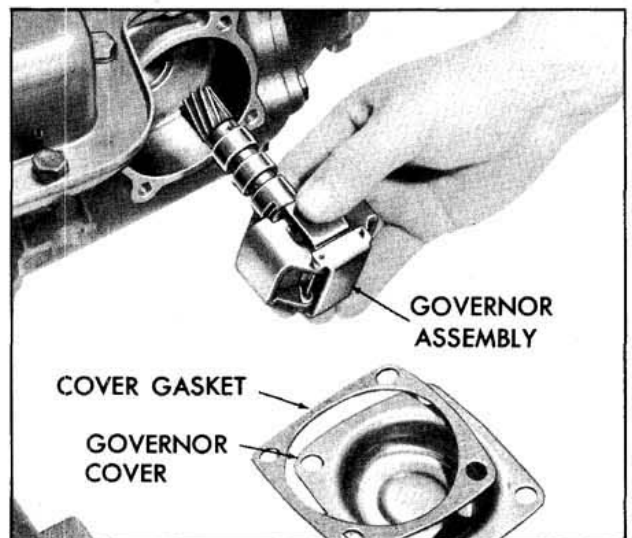

Fig. 6-32 Removing Governor
2. Withdraw governor assembly from case. (Fig. 6-32)